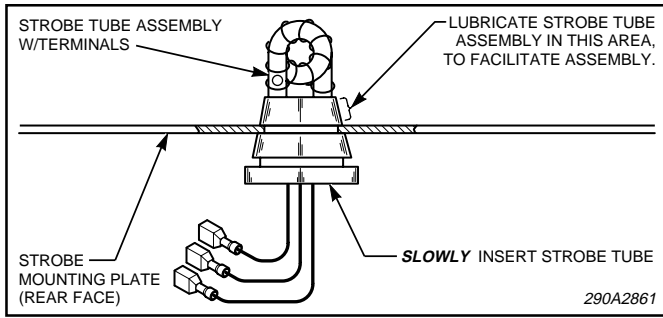

Figure 4.
f. See figure 4. SLOWLY insert the new strobe tube in the mounting bar until it is properly seated in the top slot of the strobe tube. If the strobe tube is difficult to insert, remove it and apply a high temperature grease, or Vaseline, to the rubber edge of the strobe tube and try again.